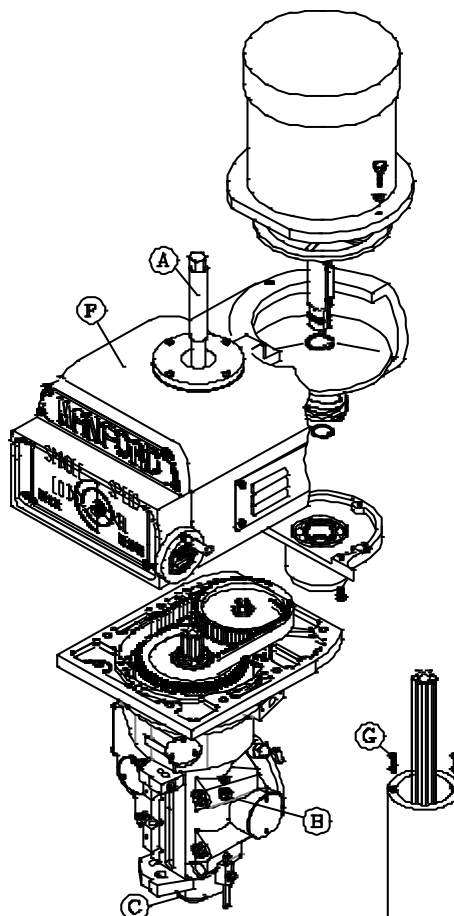

Fig. 7-4
7.5 Removing the Quill (Fig. 7-4)